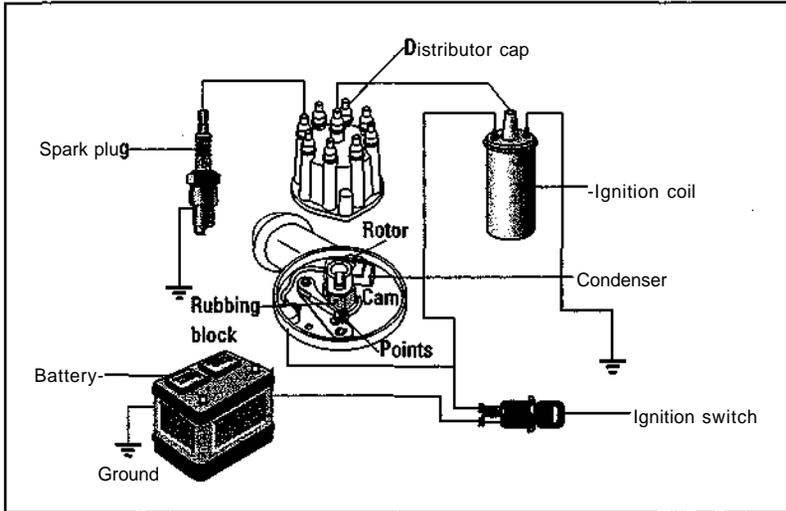
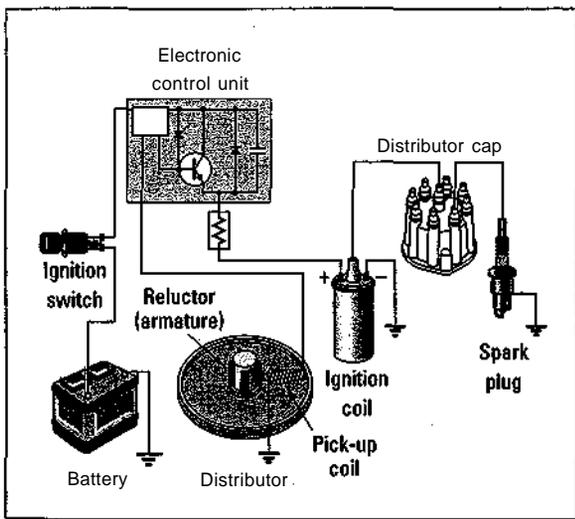
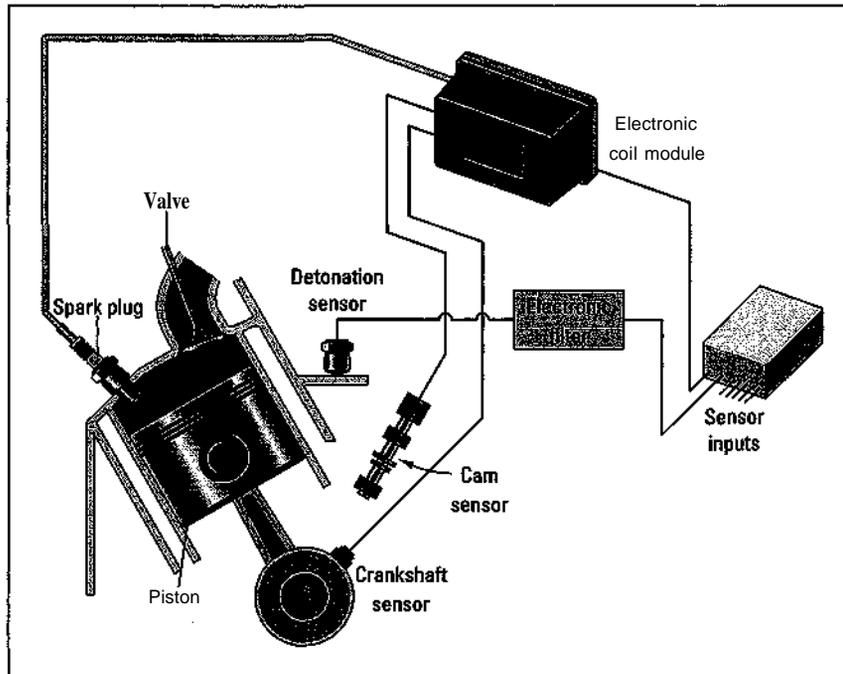
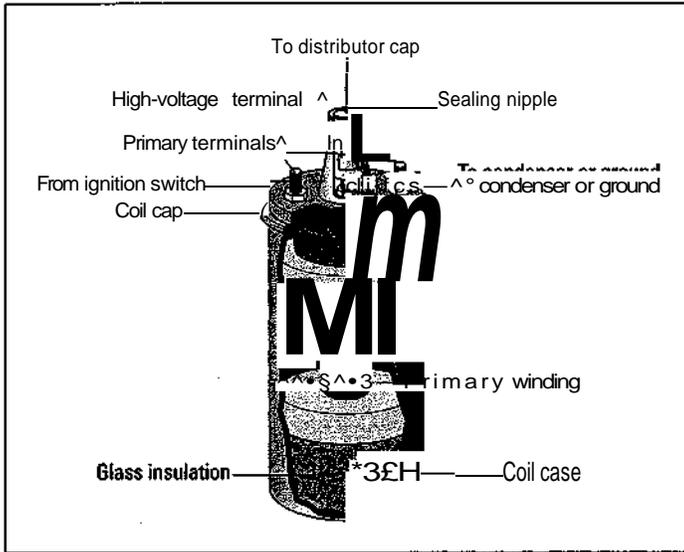

Figure 5-8:
Figure 5-9:
Figure 5-10:
Figure 5-11:
Most vehicles built prior to 1974 use a non-electronic distributor ignition system, as shown in Figure 5-8. Most vehicles built from the mid-1970s to late 1980s use an electronic distributor ignition system like the one in Figure 5-9. Today, most vehicles use a *distributorless* electronic ignition system such as that shown in Figure 5-10. To make it easier for you to identify the sections in this chapter that deal with the type of system on your vehicle, I've placed the following symbols next to them:
The ignition coil (see Figure 5-11) transforms the relatively small amount of electrical *voltage* (12 to 14 volts) that it receives from the battery into a big enough jolt of voltage (15,000 to 60,000 volts) to jump the spark plug gap. On most cars, a set of *spark plug wires* (sometimes called *ignition cables*) carries the high voltage to each spark plug. A distributorless system has an electronic coil module that does the same thing (refer to Figure 5-10).
- ⊙ Distributorless ignition systems also use a solid-state ignition module, along with the following additional electronic parts (refer to Figure 5-10):